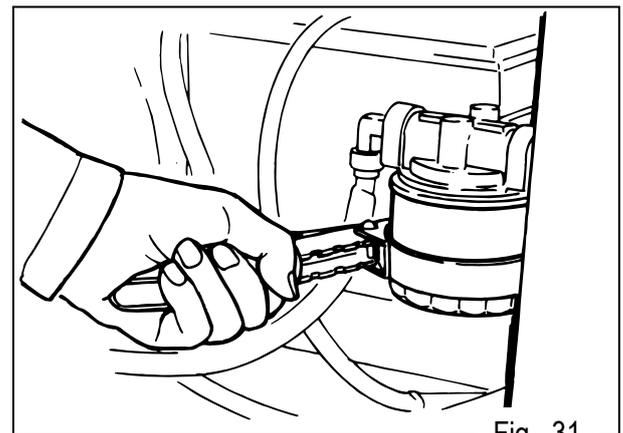

Fig. 31
- a) **Oil filter replacement (Fig.31)**